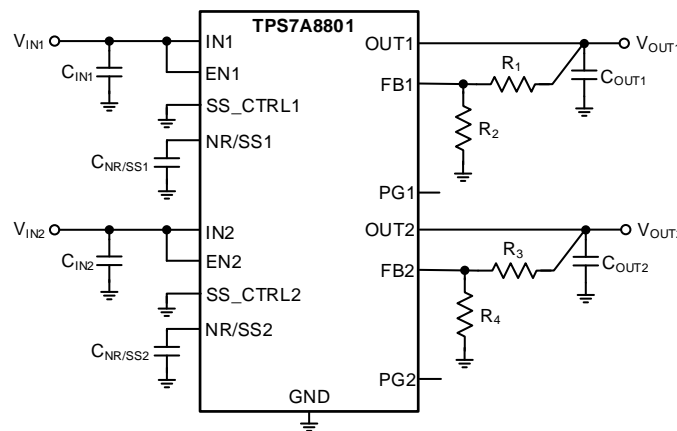

Figure 42. Adjustable Operation
The output voltages of the TPS7A8801 can be adjusted from 0.8 V to 5.0 V by using resistor divider networks as shown in Figure 42.
(1) R₁, R₃ are connected from OUTx to FBx; R₂, R₄ are connected from FBx to GND; see Figure 42.